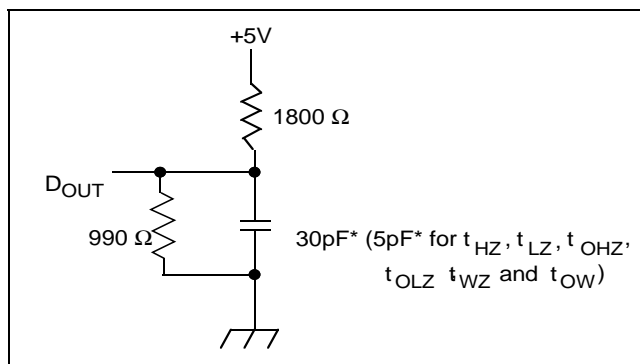

Figure 1. Output Load
4. Transition is measured ± 200 mV from steady state voltage prior to change, with loading as specified in Figure 1. This parameter is sampled and not 100% tested.
| Output Load | See Figures 1 and 2 |